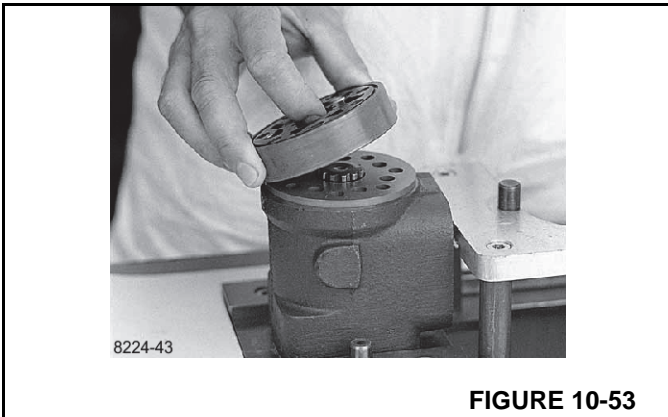

FIGURE 10-53
24. Grease the two O-rings with petroleum jelly and place them in the two grooves in the gear rim. Fit the gearwheel and rim on the cardan shaft (Figure 10-53).